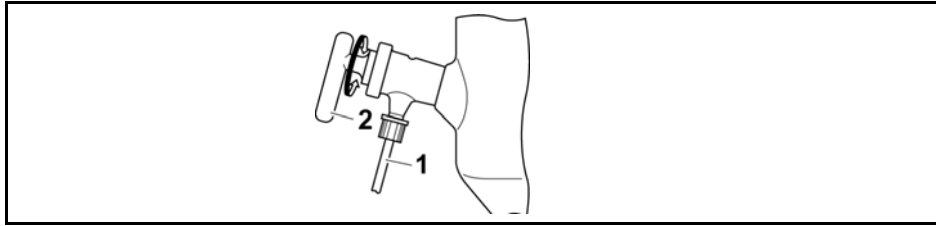

Figure 4-26: Inlet tube
The system can be ventilated with the valve stopcock (Figure 4-26 (2) of the inlet pipe.
- ➔ Slowly turn the stopcock (Figure 4-26 (2)) of the inlet tube upward.